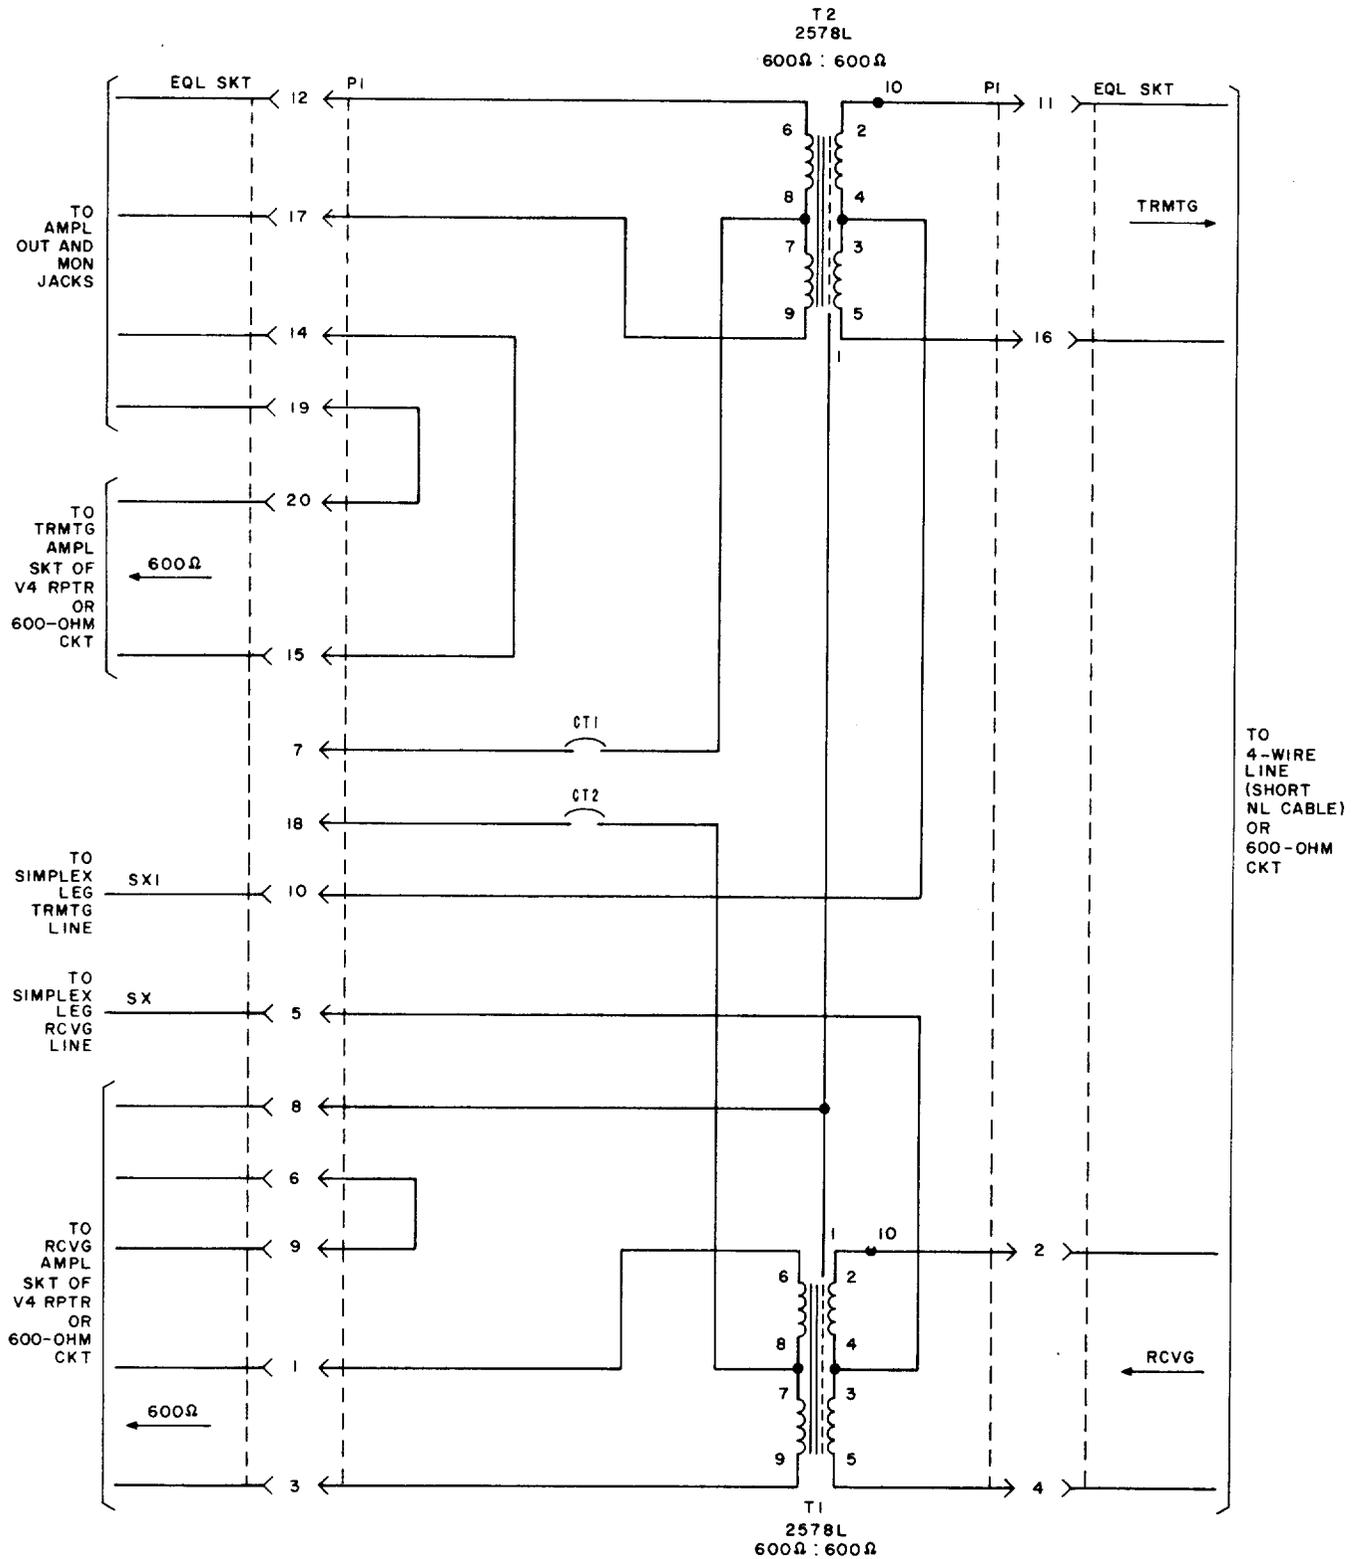

Fig. 2—359N Equalizer—Schematic and Typical Circuit Connections
3.01 Figure 2 is a schematic illustrating typical circuit connections when the 359N equalizer